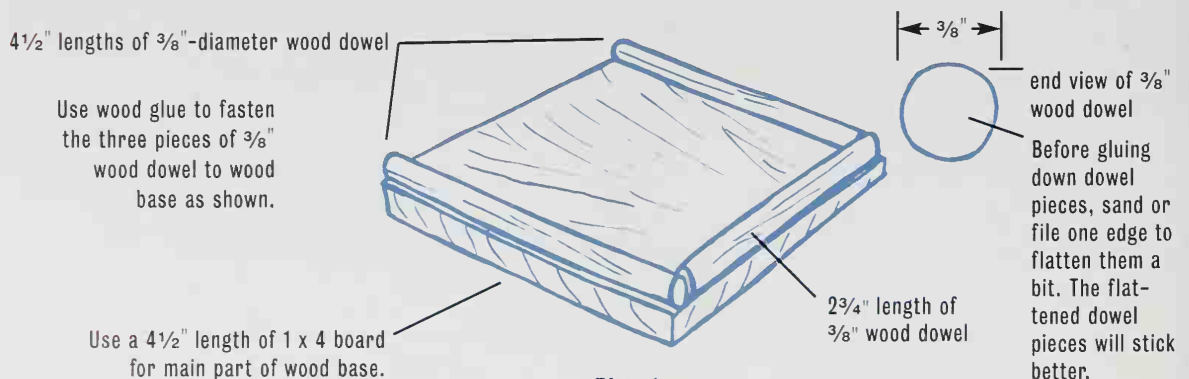

Fig. 1
2. Using Fig. 1 as a guide, glue the pieces of $\frac{3}{8}$ " wood dowels to the base.